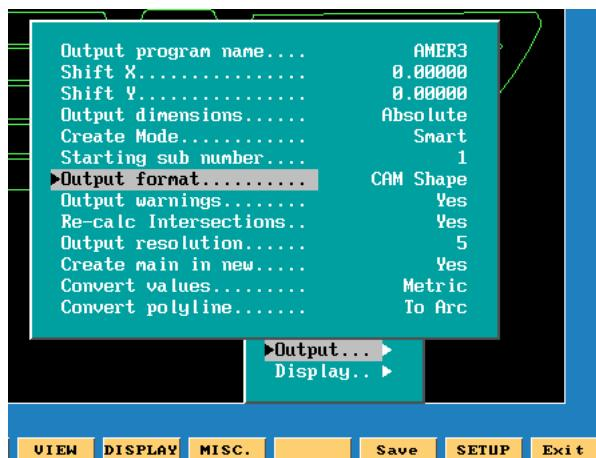

Figure 17-4, DXF Output format, CAN Shape Pop-up Menu Illustration
Refer to "Section 5, Pockets with Islands \(G162\)." In DXF, make outside profile shape #1 or lowest number. Then all islands thereafter, the order is not important. When saving these, use Cam Shape. Refer to **Figure 17-4**.
4. Select **CAM Shape**, and press **ENTER**. Refer to **Figure 17-4**.
Figure 17-4, DXF Output format, CAN Shape Pop-up Menu Illustration.)